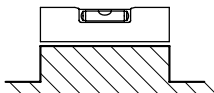

Fig. 17
**INFO!** The intermediate pressure line and intermediate pressure chamber are fully insulated at the factory. To mount the expansion valve, cut the insulation as shown in the marked area in Fig. 17, page 16. Correct sensor placement is marked by an unpainted area on the pipe.